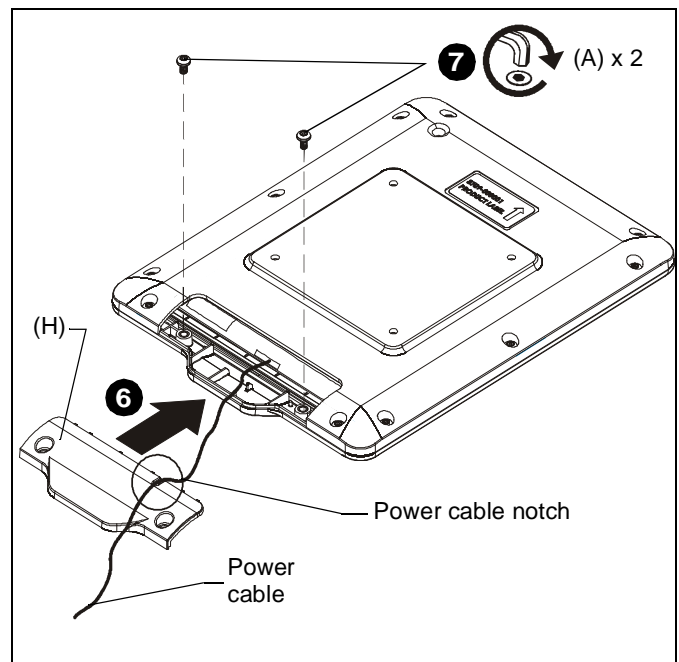

Figure 3
6. Place power cable through notch on security cable cover (H) and slide cover (H) into place on FSBI2TB. (See Figure 3)
7. Fasten cover (H) into place using two 08-32 x 1/4" button head security screws (A). (See Figure 3)